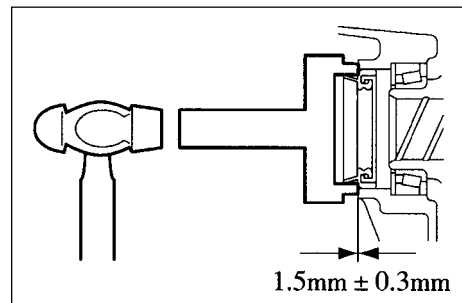

Figure 6-9
2. Mount the oil seal of the transaxle housing (see Figure 6-9).